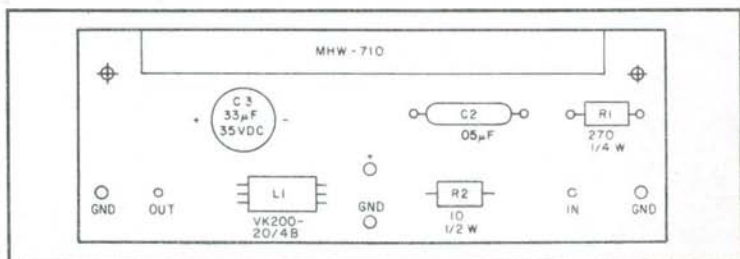
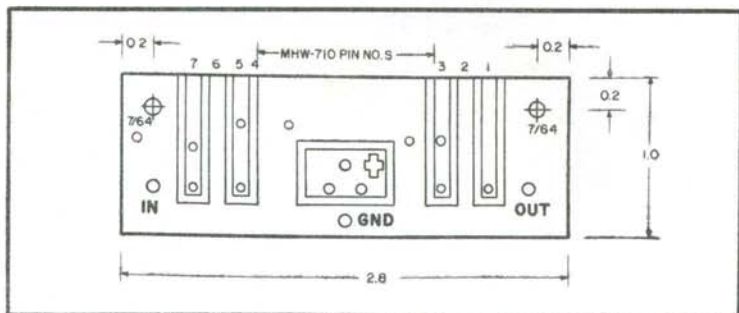

Fig. 6-57. 10 watt ATV amplifier PC board, component side.
Fig. 6-58. 10 watt ATV amplifier PC board, foil side. All dimensions in inches. Board is glass.
2. Referring to Fig. 6-57, mount all components to PC board. (Foil layout for board is shown in Fig. 6-58).
6. Solder all seven pins of the module to the PC board (pin numbers shown in Fig. 6-58).